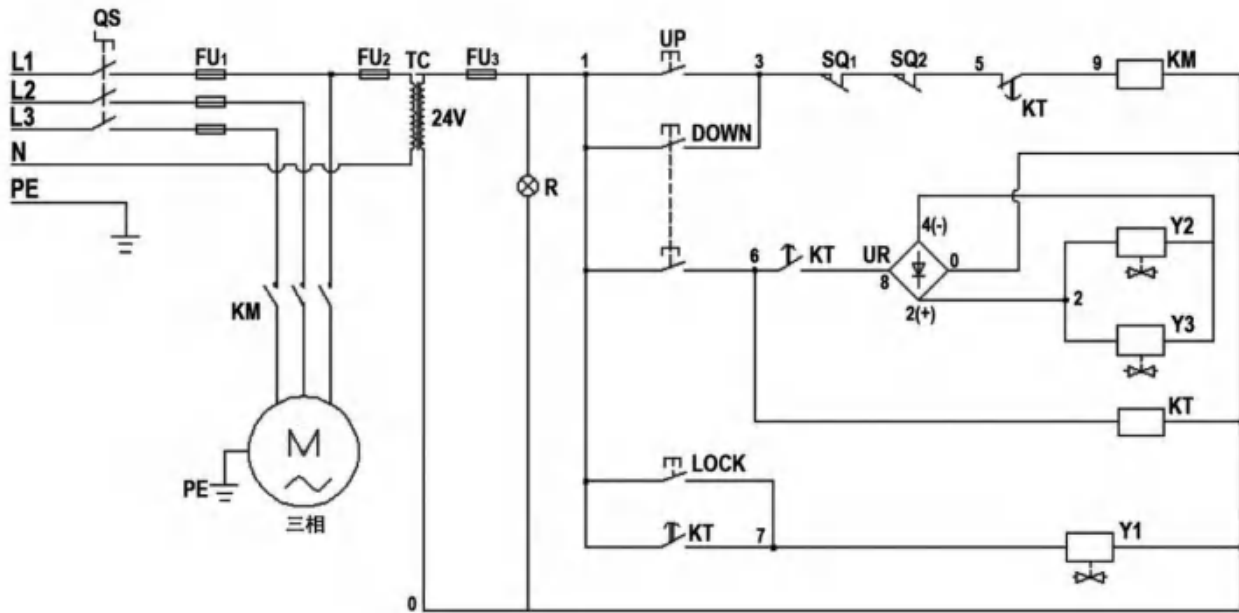

Fig.35
2.3 380V Circuit diagram (See Fig. 35)